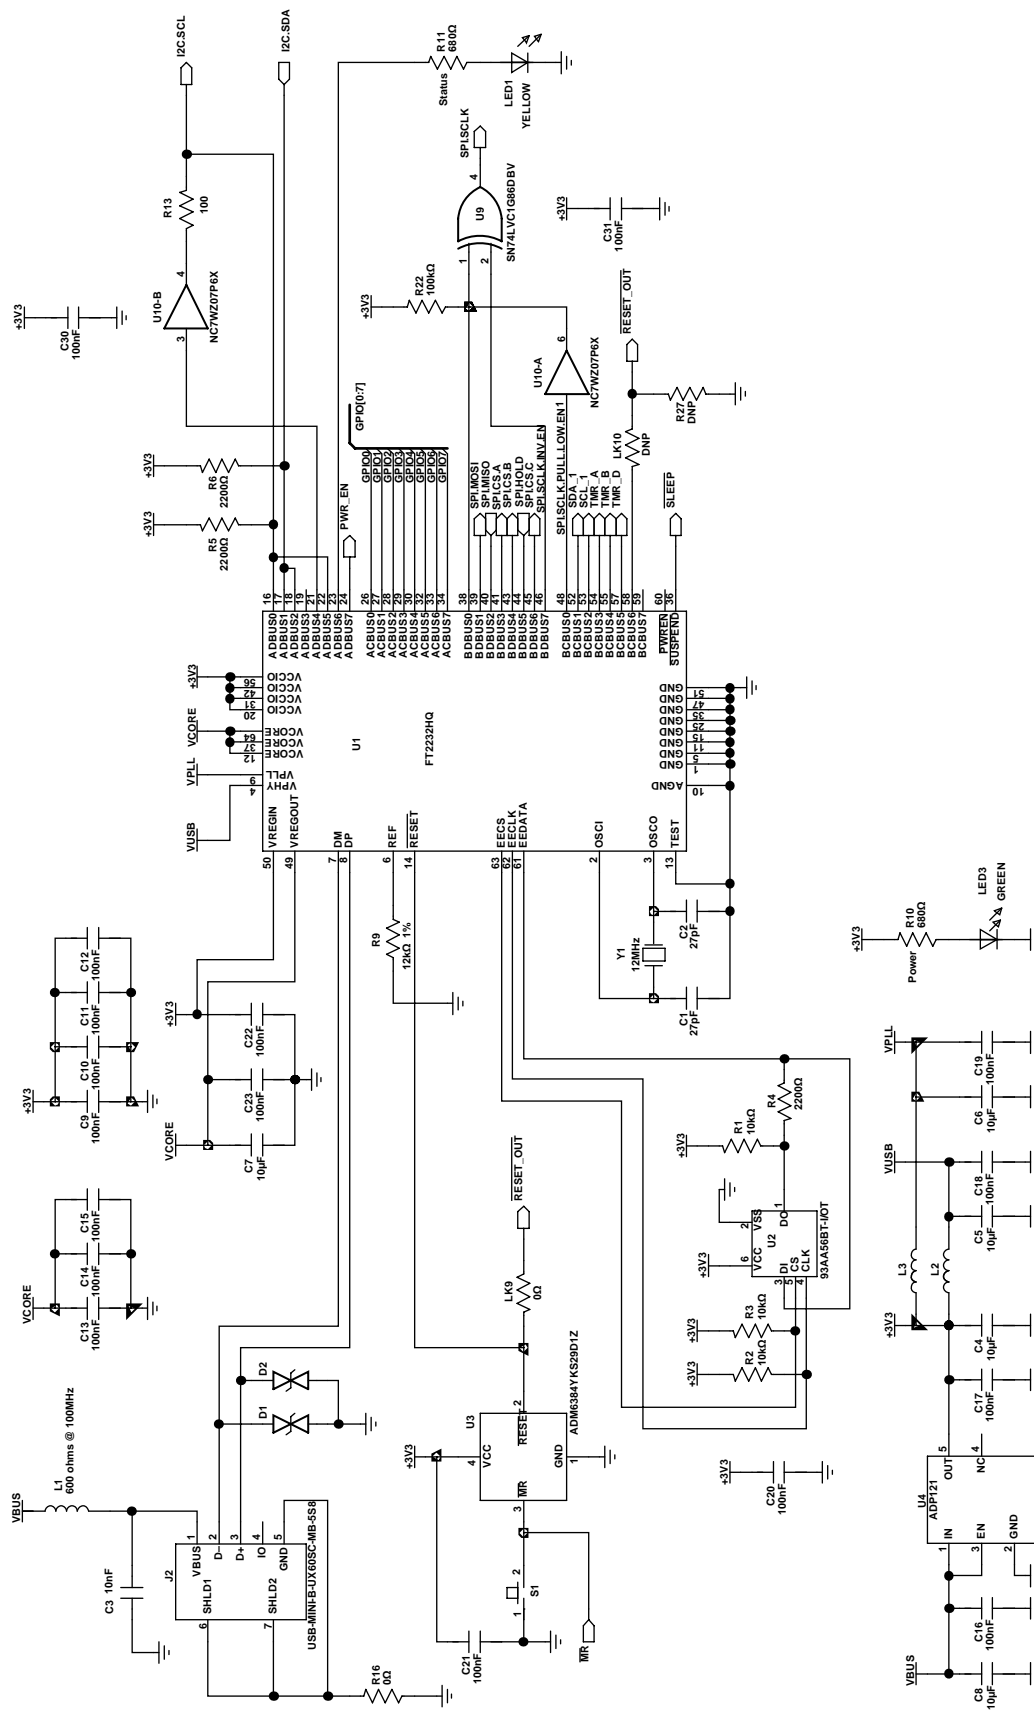

Figure 8. SDP-S—USB-to-Serial Engine, USB, Interface
- SDP-S—USB-to-serial engine, USB, interface (see Figure 8)